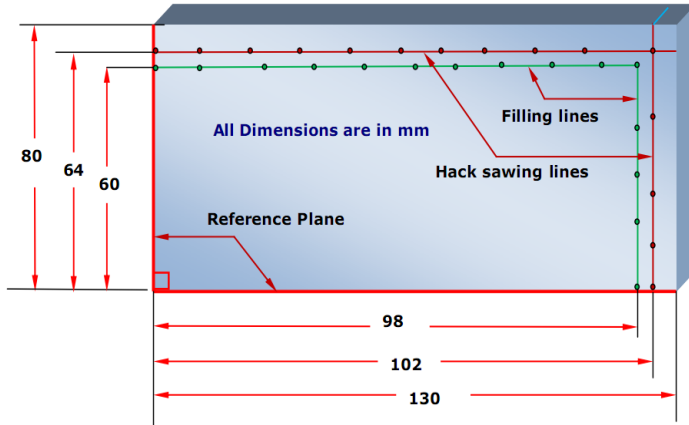

Fig.2.1. The filling and hack sawing lines.
- **Step 2-** Use the surface plate, surface gauge and steel ruler to set the required height as shown in Fig.2.1.